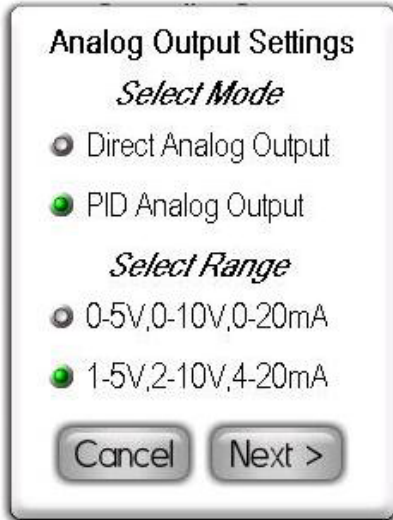

Figure 10. Proportional (direct) and PID analog output modes are supported.
The *Analog Output* option on the *Controller Setup* menus allows the primary control output to be configured as required by the specific application. Selecting this option invokes the *Analog Output Settings* configuration screen (Figure 10). Each of the four (4) analog outputs of the FMS-1655 may be configured for one of two operating modes: *Direct Analog Output* or *PID Analog Output*.